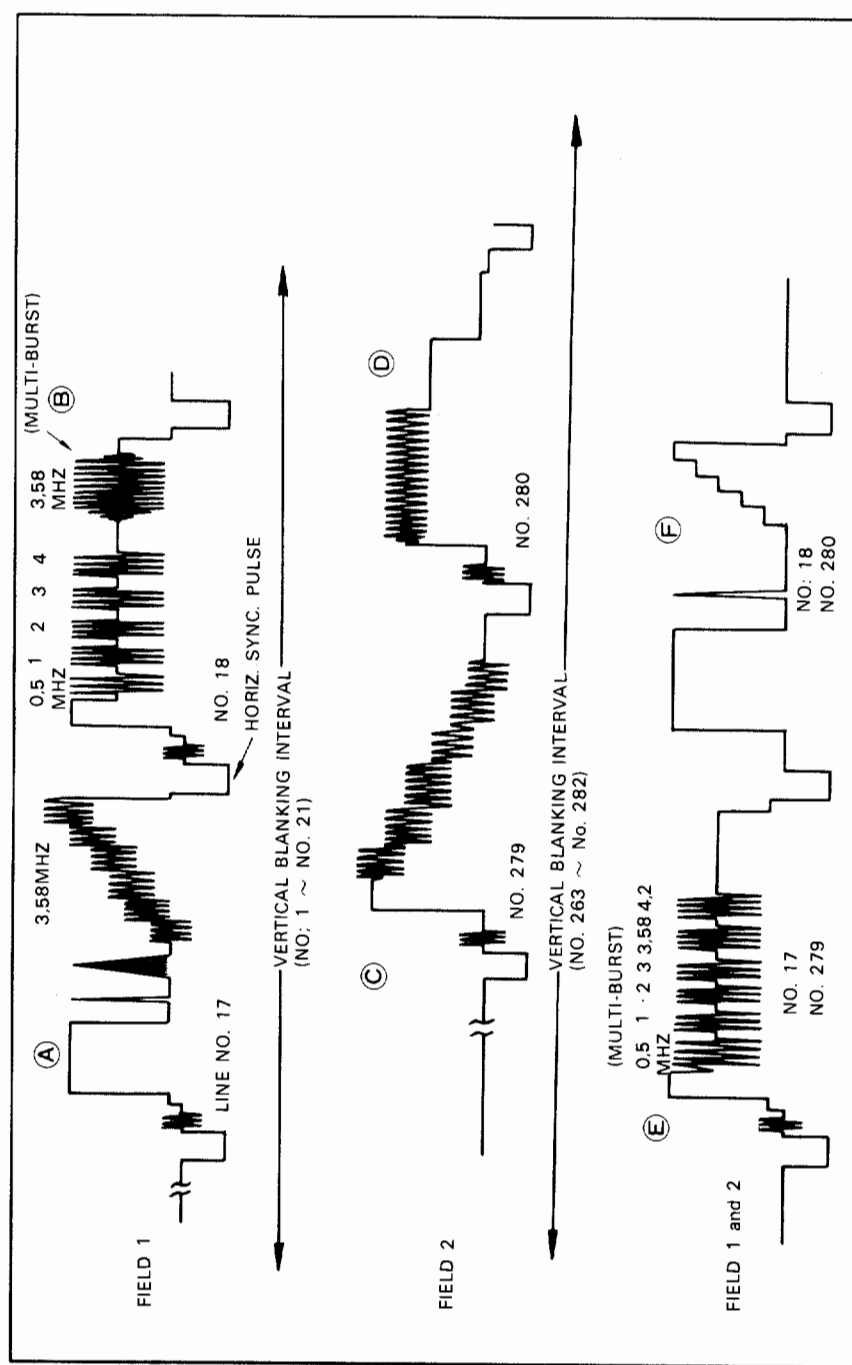

Fig. 11 VITS signal, Fields 1 and 2
Many television servicing procedures can be performed using single-trace operation. These are outlined later in the application section covering single-trace operation. One of these procedures, viewing the multi-burst signal in the VITS (vertical interval test signal), can be accomplished more effectively using a dual-trace oscilloscope. The VITS signal is specifically used for characteristic checks of the transmission system of a broadcast station or a network including repeater stations or for changeover of transmission system. In many cases, this signal does not appear in the normal video signals. Even when it is included in the signal, the method of inserting the information differs depending on the broadcast station. Also, the VITS information in Field 1 (1st interlaced scanning) and Field 2 (2nd interlaced scanning) are different in many cases. Examples of VITS signals are shown in Fig. 11.
The transmitted VITS has a specific frequency, amplitude and waveform as shown in Fig. 11. Television networks use precise signals for adjustment and checking of network transmission equipment, but the multi-burst signal in VITS can also be used for checking the operating condition of TV sets. The first frame of VITS at the "B"
9. Set the SWEEP TIME/DIV control to the 0.1ms/div position to expand the display. The VITS information will appear toward the right hand portion of the expanded waveform displays. The waveform information on each trace may appear as shown in Fig. 11. Because there is no provision for synchronizing the oscilloscope display to either of the two fields which comprise a complete vertical frame, it cannot be predicted which field display will appear on CH1 or CH2.
10. Pull the POSITION control outward to obtain an additional X5 magnification. Rotate the control moving the trace to the left until the expanded VITS information appears as shown in Fig. 11. Because of the low repetition rate and the high sweep speed combination, the brightness level of the signal displays will be reduced.